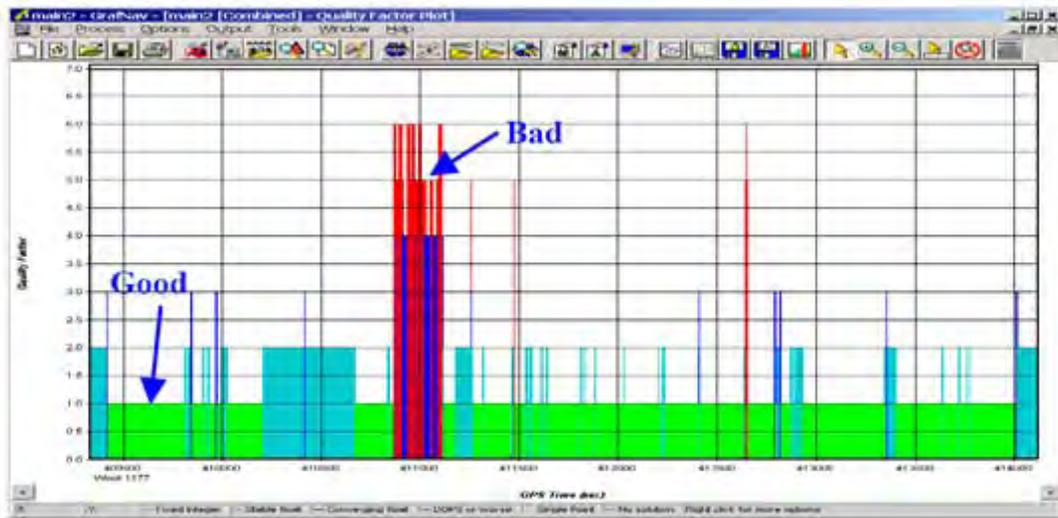

Figure 12: Quality factor plot
- Quality Factor Plot: This plot shows the quality of the final solution (Figure 12). There are five different quality factors plotted and these factors are also output in the Atlas Geophysics Pty Ltd GPS data file.